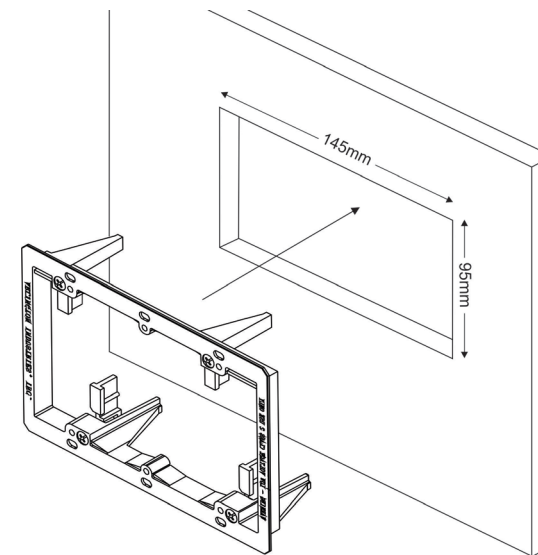

Figure 2: Mounting the Mud Ring
1. Cut a square opening in the wall 145mm (5.7") wide by 95mm (3.7") high (see Figure 2).